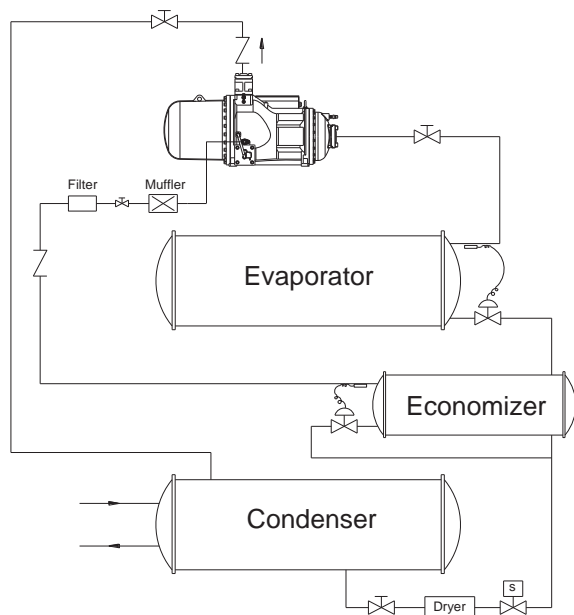

Figure 56 System with economizer (sub-cooler)
1. When economizer is used, it is recommended to install a muffler before middle-pressure returned gas port in compression chamber to effectively mitigate pulsation noise in middle pressure as shown in Figure 56 below.